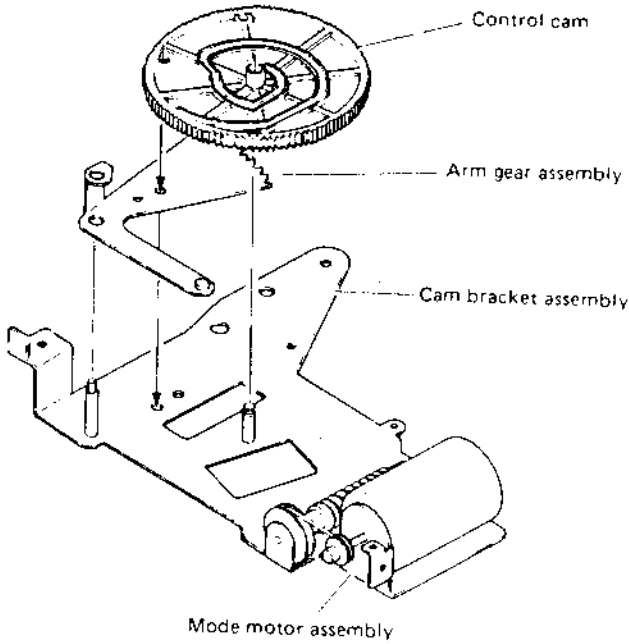

Fig. 1-3-3 Control cam
2. Install the control cam on the cam bracket assembly so that the hole of the control cam overlaps the hole which is indicated in the step 1), as shown in Fig. 1-3-3. Do not turn the control cam from this position for the next step.